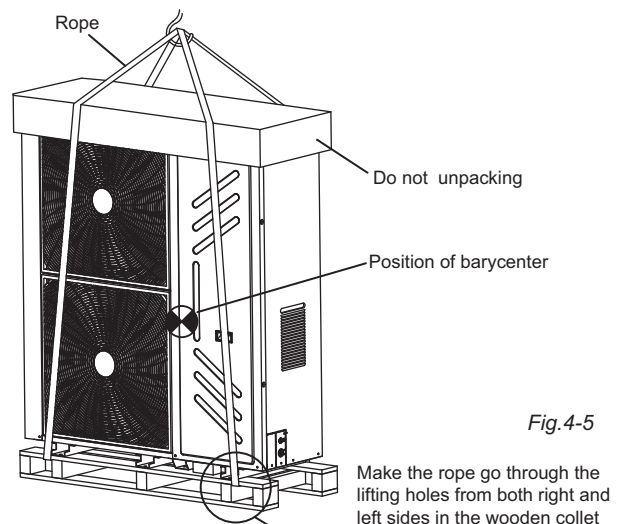

Fig. 4-5
- 2) Keep the unit vertical when moving and handling. If the unit barycenter is not at the center of the unit, do not lean it more than 30°. Refer to Fig. 4-5. Be careful during moving and lifting.